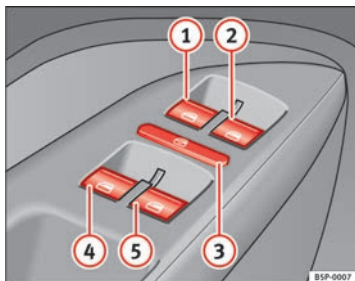

Fig. 67 Detail of the driver door: controls for the front and rear windows
The buttons ⇒ Fig. 67 ① and ② have two levels for opening the window and two for closing it. This makes it easier to open and close windows to the desired position.